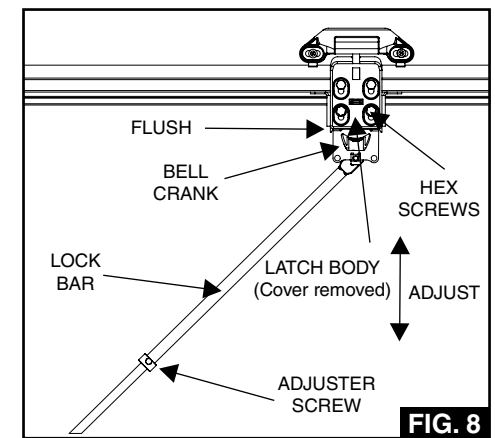

FIG. 8
- loosen off 4 Hex HD screws securing latch body to door (See Fig 8).
- Ensure bell crank is flush with latch body (See Fig 8) and re-tighten lock bar adjuster screw.